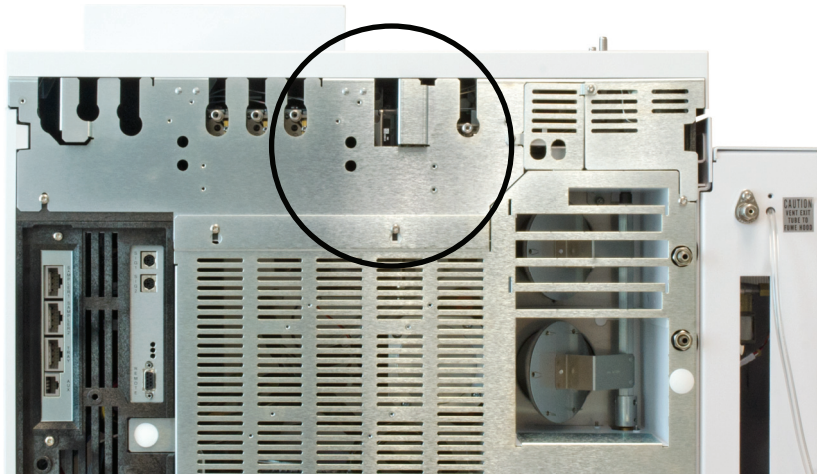
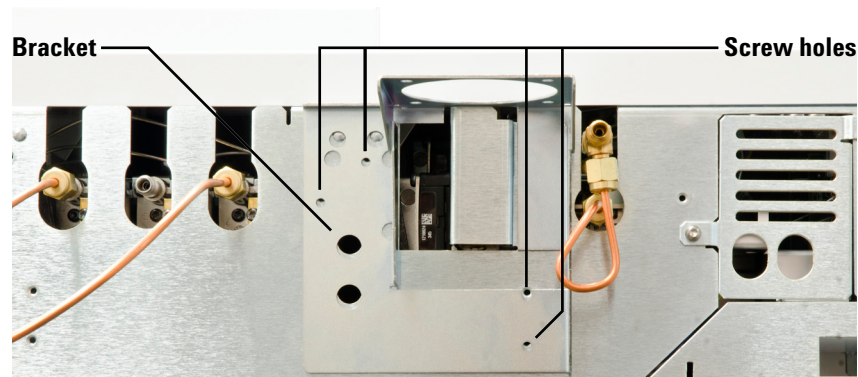

Figure 11. Location on back of 7890 GC to install bracket
Figure 12. Screw hole locations on back of 7890 GC and bracket
- 1 Place the bracket (5003-1356) against the back of the 7890 GC in the location shown in Figure 11, then align the screw holes as shown in Figure 12.